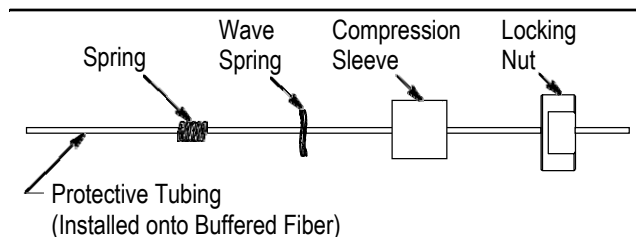

Figure 3
h. Slide the components shown in Figure 3 over the buffered fiber and onto the protective tubing. Make sure to orient each component as shown.